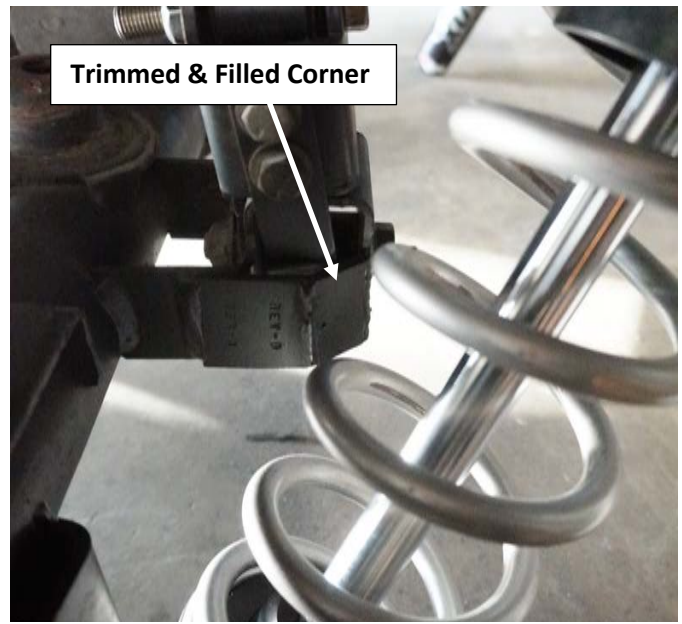

Fig 5. Trimmed factory rear track bar bracket.
17. Cycle the suspension straight up and down from full bump to full droop. Some track bar brackets hit larger shocks and need to be cleared. At full droop check brake line length. See figure 5.